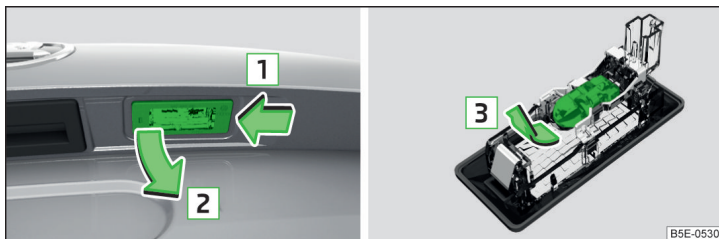

Fig. 242 Remove the number plate light/replace the bulb
- Push in the lamp in the direction of the arrow **1** » Fig. 242.